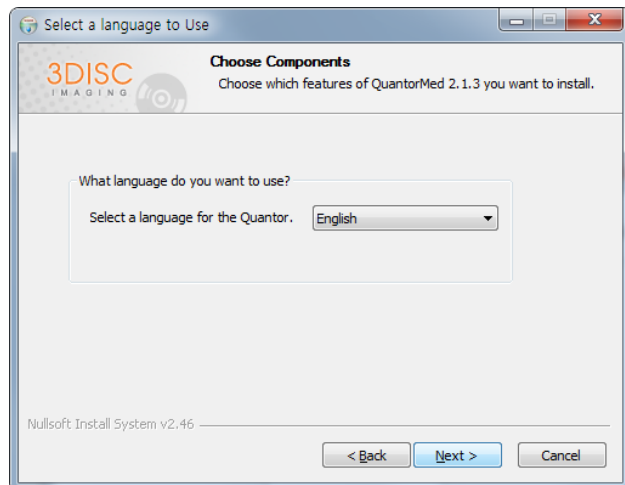

Figure 2.3. Components Dialog Box
- Choose your language and click the "Next" button as shown in Figure 2.3